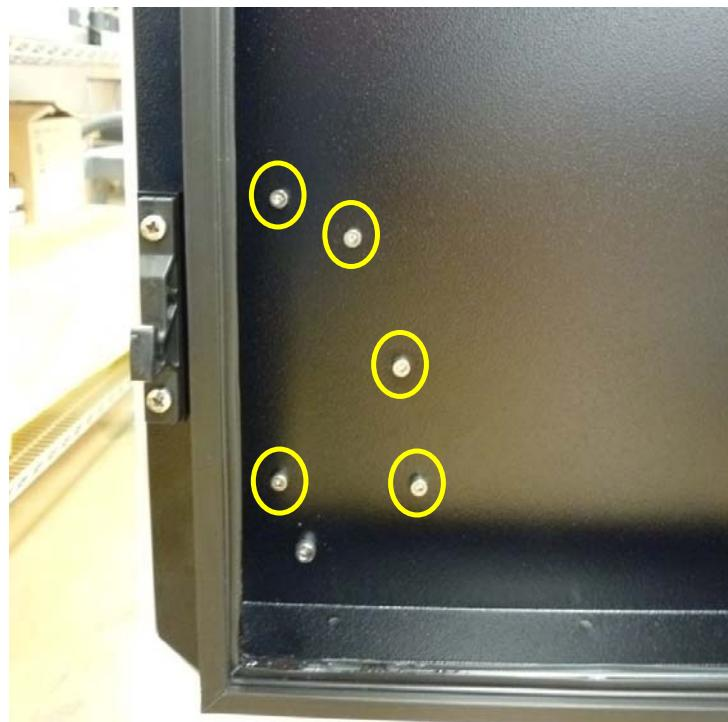

Figure 7
2. Remove five M4 hex screws located at the door left side (**Figure 7**, yellow circles).